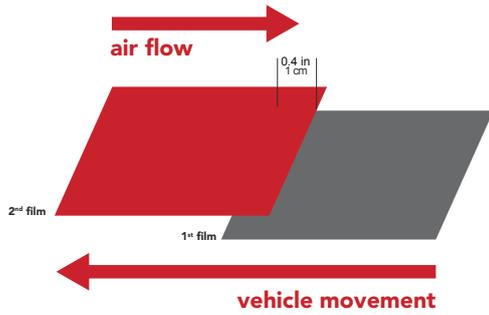

Figure 20
- Vertical overlap on moving surfaces: always apply from the rear towards the front of the vehicle, the second width will overlap the first one, etc. (FIG. 20)